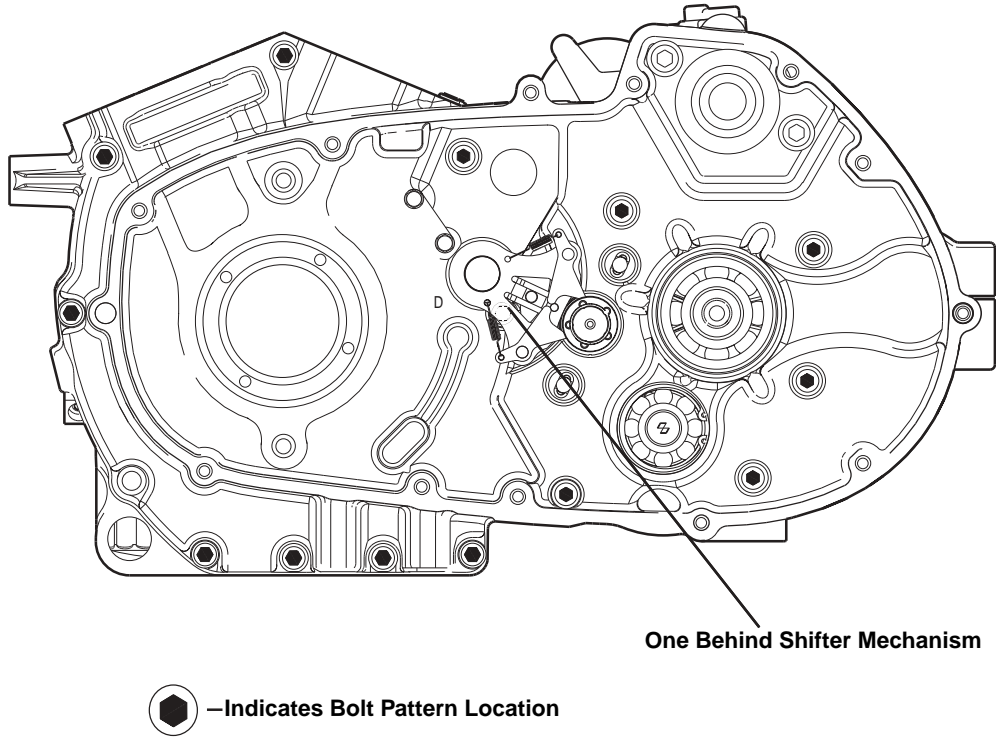

Figure 6-84. Crankcase Fasteners
- c. See Figure 6-84. Tighten 5/16-in. fasteners to 15-19 ft-lbs (20.3-25 Nm).